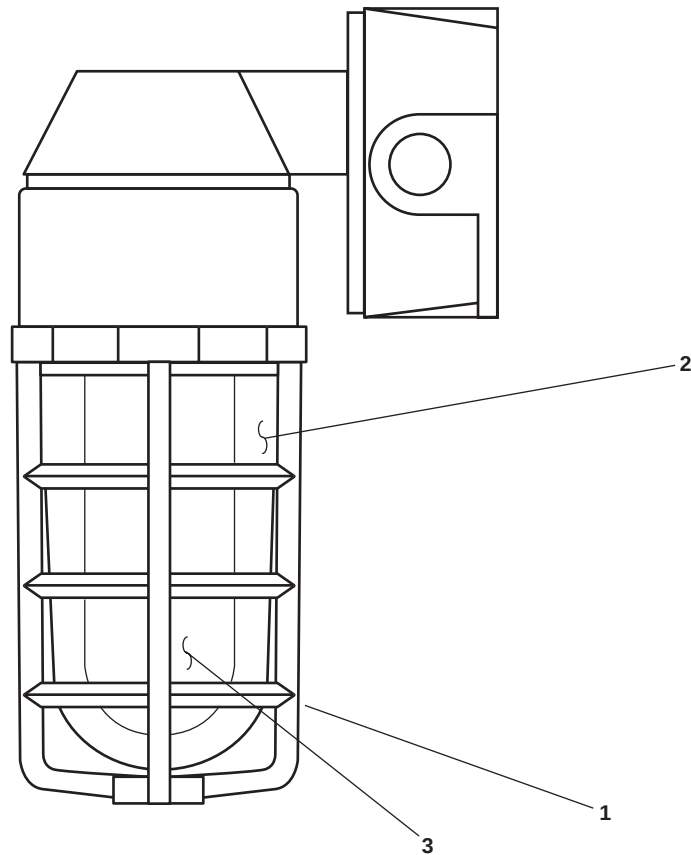

Figure 1. Lighting Fixture Bracket
1. Remove the guard (figure 1, item 1).
2. Remove the globe (figure 1, item 2).
3. Remove the lamp (figure 1, item 3).
1. Install the lamp (figure 1, item 3) in the lamp socket hand tight.
2. Install the globe (figure 1, item 2) in the fixture hand tight.
3. Install the guard (figure 1, item 1) in the fixture hand tight.